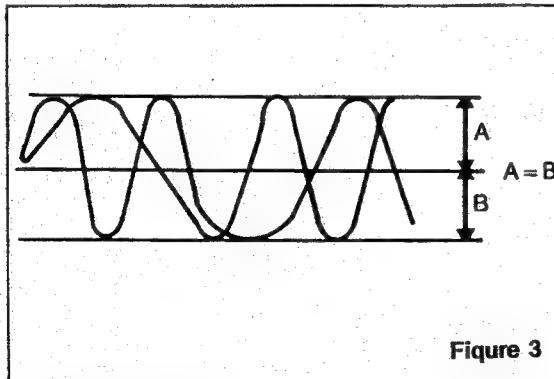

Figure 3
- Connect the oscilloscope to TP3 (TE) and TP4 (GND).
- Adjust VR201 so that oscilloscope indicate the figure shown in Figure 3.